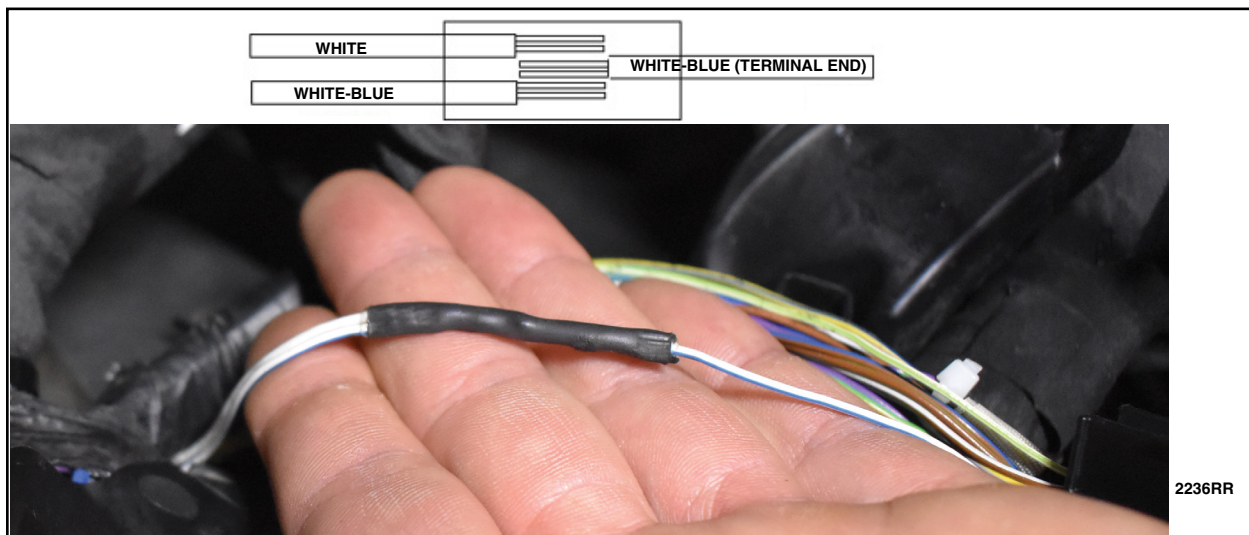

FIGURE 49
58. On the white/blue terminal end fold the exposed wire in half before placing in splice butt connector. This will allow good contact with the butt splice connector. Place wires in splice butt connector. See Figure 49.